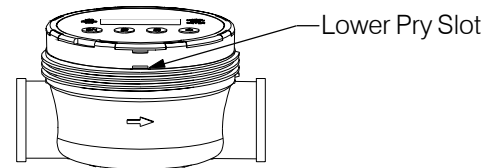

Figure 7
2. Unscrew meter cap (item 1). Use a strap type oil filter wrench or large 5" jaw pipe wrench if necessary.
3. Insert a flat-head screwdriver in the lower slot (see Figure 7) and turn to pry up meter cover (item 6).